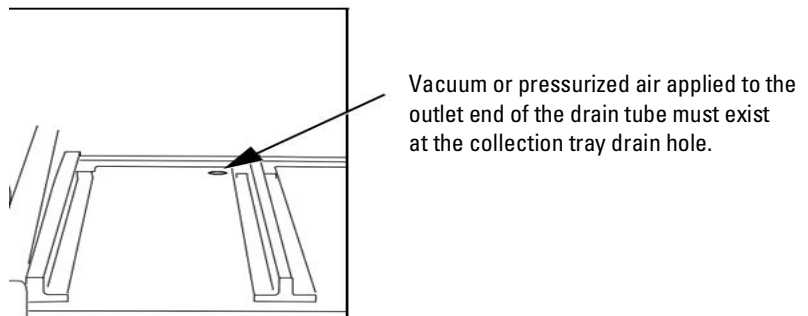

Figure 2-5 Fraction collection tray drain hole
1. Test the fraction collector drain by connecting a vacuum or air supply source to the outlet end of the drain tube. Then, verify the presence of such vacuum or air supply source on the drain (Figure 2-5).